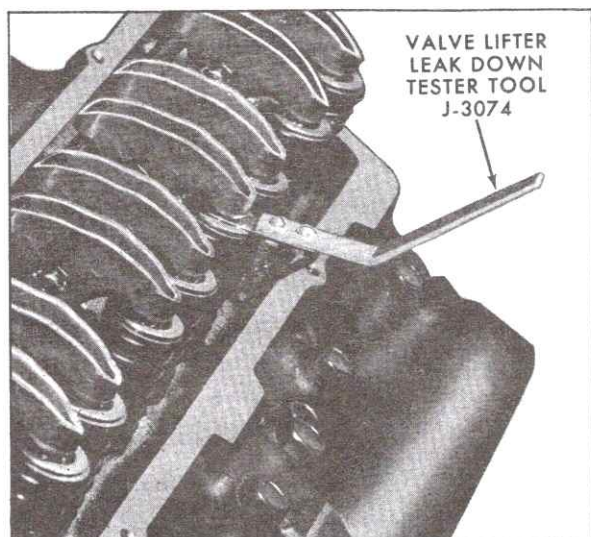

Fig. 6-135 Valve Lifter Leak-Down Rate Checking
10. Insert feeler gage of tool between valve stem and rocker arm and at the same time, compress tool "pop-out" spring to its stock against valve spring retainer, Fig. 6-135.